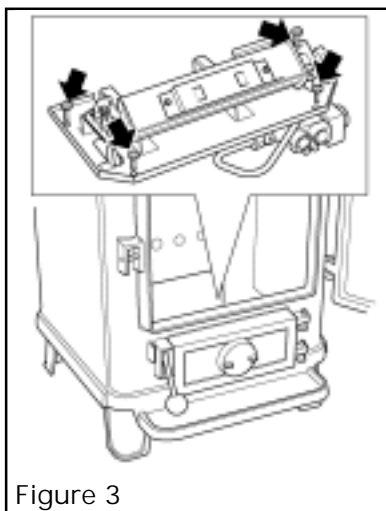

Figure 3
2. Detach the burner module by removing four screws. See figure 3.